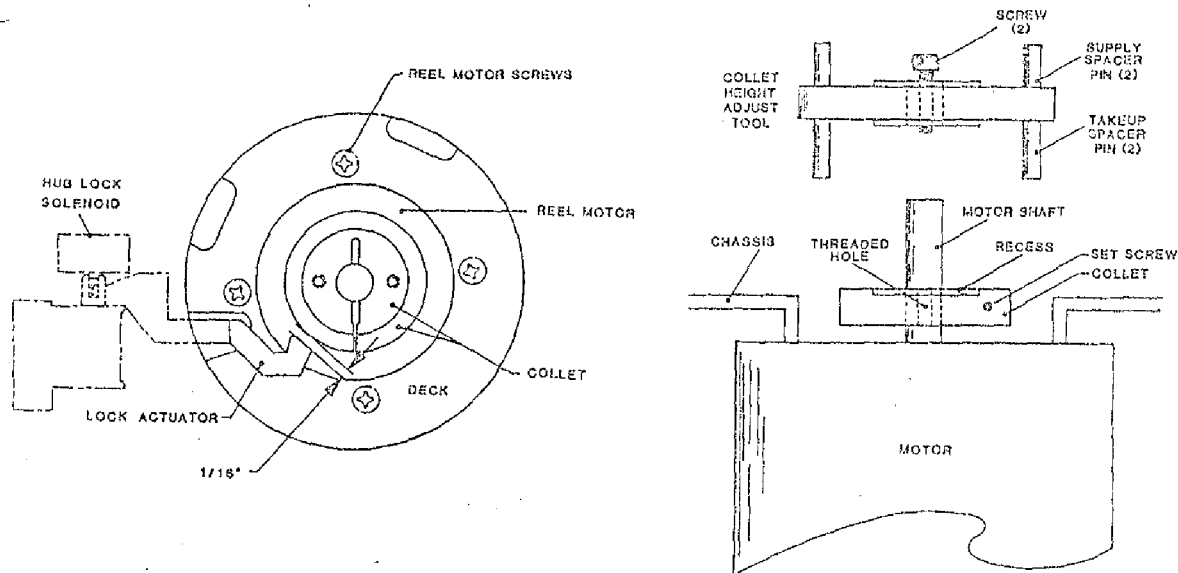

Figure 5-26. Supply Reel Motor Assembly
5.3.31 SUPPLY REEL MOTOR ASSEMBLY (Figure 5-26)
- D. Remove four Phillips Motor Mounting Screws (same as in Fig 5-26) and lower the Reel Motor enough to access the Motor Connector inside the Blower Box.
2. Remove the Reel Motor Mounting Screw nearest to the Hub Lock Solenoid (Figure 5-26).